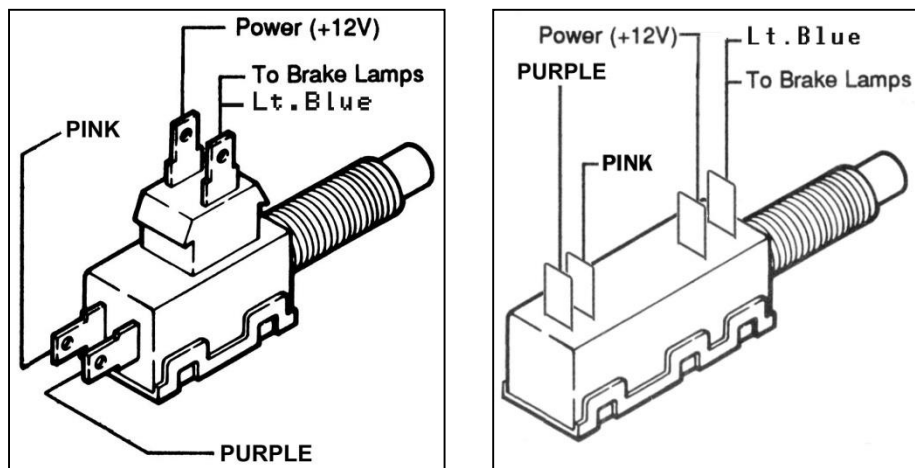

FIGURE 6 Brake Switch Connections
- If you are using the included brake switch then you will need to install it and wire it according to **Figure 6**. The pink wire to the back of the switch in the illustration is the wire that has power on it whether or not the brake is being applied.